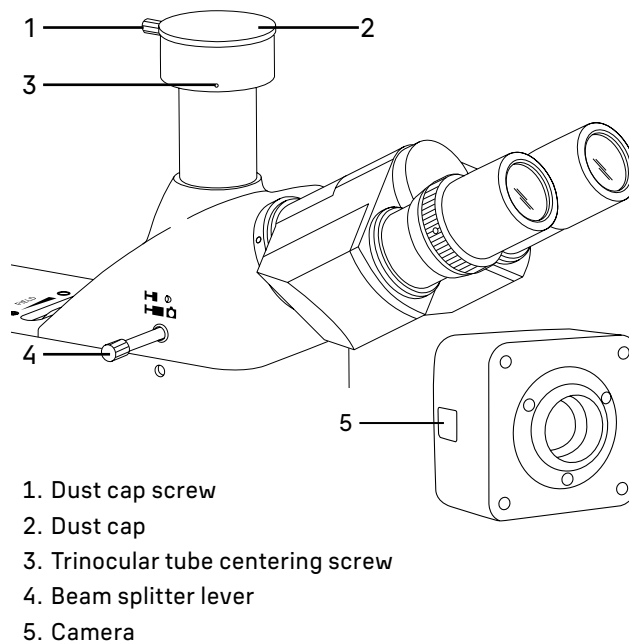

Fig. 13. Using the camera
The microscope is designed to observe a specimen through the eyepieces and to photograph the specimen. The digital camera is mounted in the trinocular tube 22 (Fig. 1) located on the top of the microscope head. When not in operation, it is covered with the dust cap 2 (Fig. 13). You can switch to the trinocular tube using the knob 4 (Fig. 13). The knob is located on the left side of the microscope head.
- Loosen the dust cap screw 1 (Fig. 13). Remove the dust cap 2 (Fig. 13) from the trinocular tube.
- The microscope kit includes a C-mount adapter. Connect the camera 5 (Fig. 13) to the adapter.
- Fit the camera 5 (Fig. 13) into the trinocular tube and secure it with the screw 1 (Fig. 13).
- Pull out the beam splitter lever 4 (Fig. 13) as far as it will go. The knob is in the pushed-in position when the trinocular tube is not used.
- Switch on the camera 5 (Fig. 13) as per the manual and adjust the image.
If there is a strict requirement to synchronize the image in the eyepieces and camera (coincidence between the image center and direction), you should adjust the camera image using three centering screws 3 (Fig. 13). Do it as follows:
- Set the beam splitter lever 4 (Fig. 13) to the eyepiece position. While observing the specimen through the eyepieces, find a distinctive point in the field of view (an easily identifiable target, such as point S in Fig. 14a), move the specimen on the stage so that the point is in the center of the field of view, as shown in Fig. 14b. To do this, you should use a special calibration slide with crosshairs in place of an ordinary sample and an eyepiece with crosshairs in place of an ordinary one.
- Pull out the beam splitter lever 4 (Fig. 13) to the camera position. Look at the specimen on a monitor or display screen and make sure that the image of the target is in the center of the field of view. If the image deviates from the center of the field of view, adjust three centering screws 3 (Fig. 13) on the trinocular tube to move the target towards the center.
- Move the specimen and check whether the image of the specimen on the monitor or display screen moves in the same direction as the specimen does. If the image moves in another direction, you should adjust the camera position. Loosen the lock screw 1 (Fig. 13) and rotate the camera 5 (Fig. 13) to make the displayed image direction in line with the direction of stage movement, and then secure the screw.